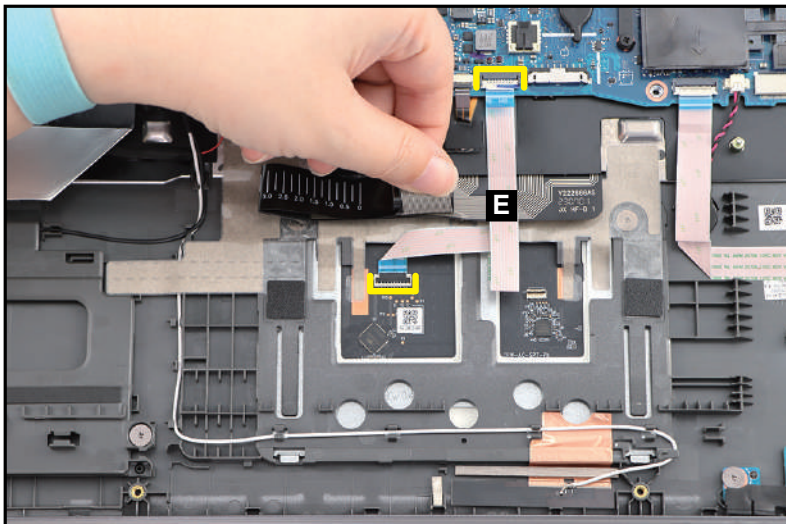

Figure 3-125. Replacing the Touchpad Module
5. Connect the touchpad FFC (E) to the touchpad module and mainboard connectors (Figure 3-125).